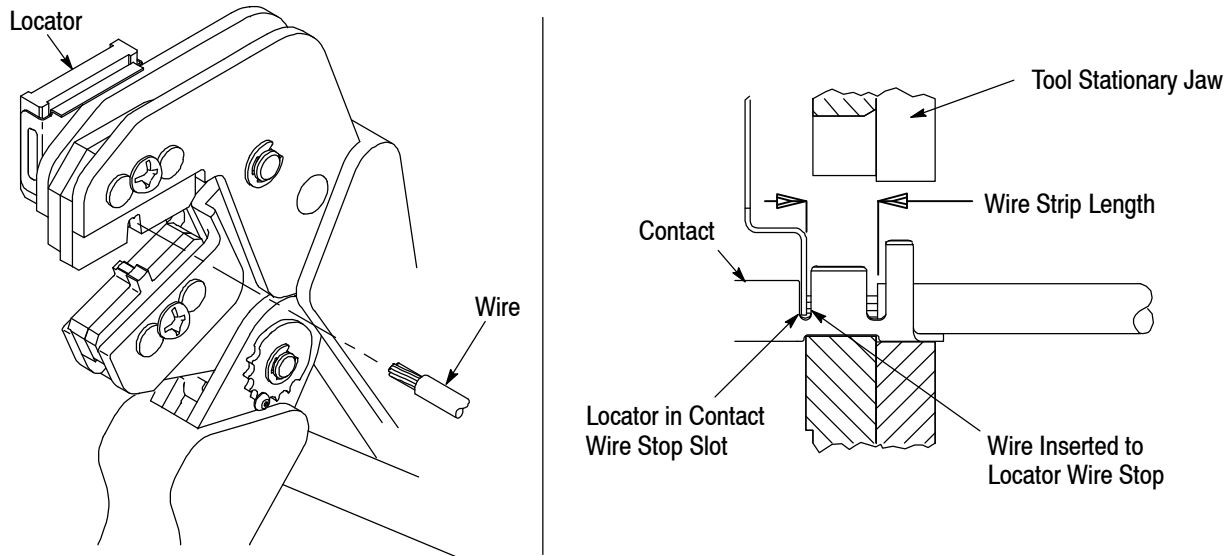

Figure 3
Refer to Figure 3, and proceed as follows:
5. Insert stripped wire into contact insulation and wire barrels until it is butted against the wire stop, as shown in Figure 3.
NOTE  The crimped contact may stick in the crimping area, but can be removed by pushing downward on the top of the locator (see Figure 3).